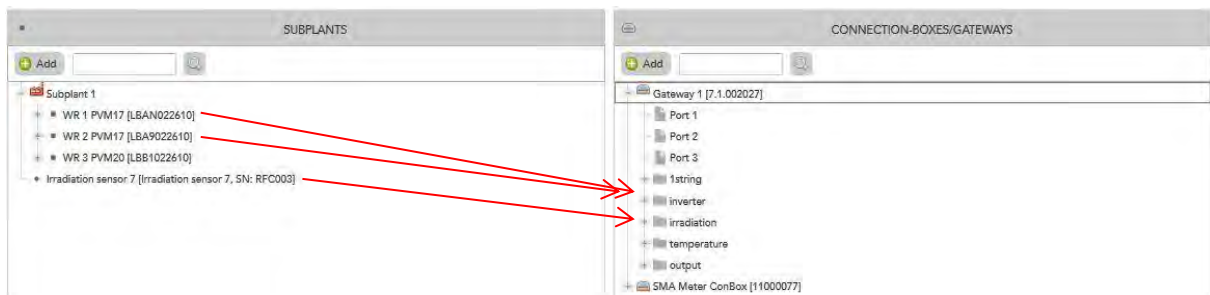

Figure 58: Assigning inverters and environmental sensors via drag & drop.
9. Inverters and environment sensors have to be assigned to the gateway by drag & drop to "inverter", "irradiation" etc. of the Gateway as shown in Figure 58.